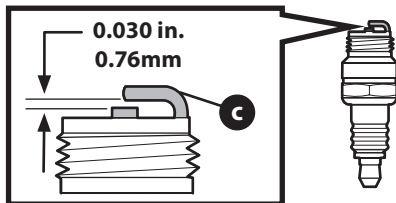

Figure 15
3. Measure the plug gap with a feeler gauge. Correct as necessary by bending side electrode (c) (Figure 15). The gap should be set to 0.030 in (0.76mm).